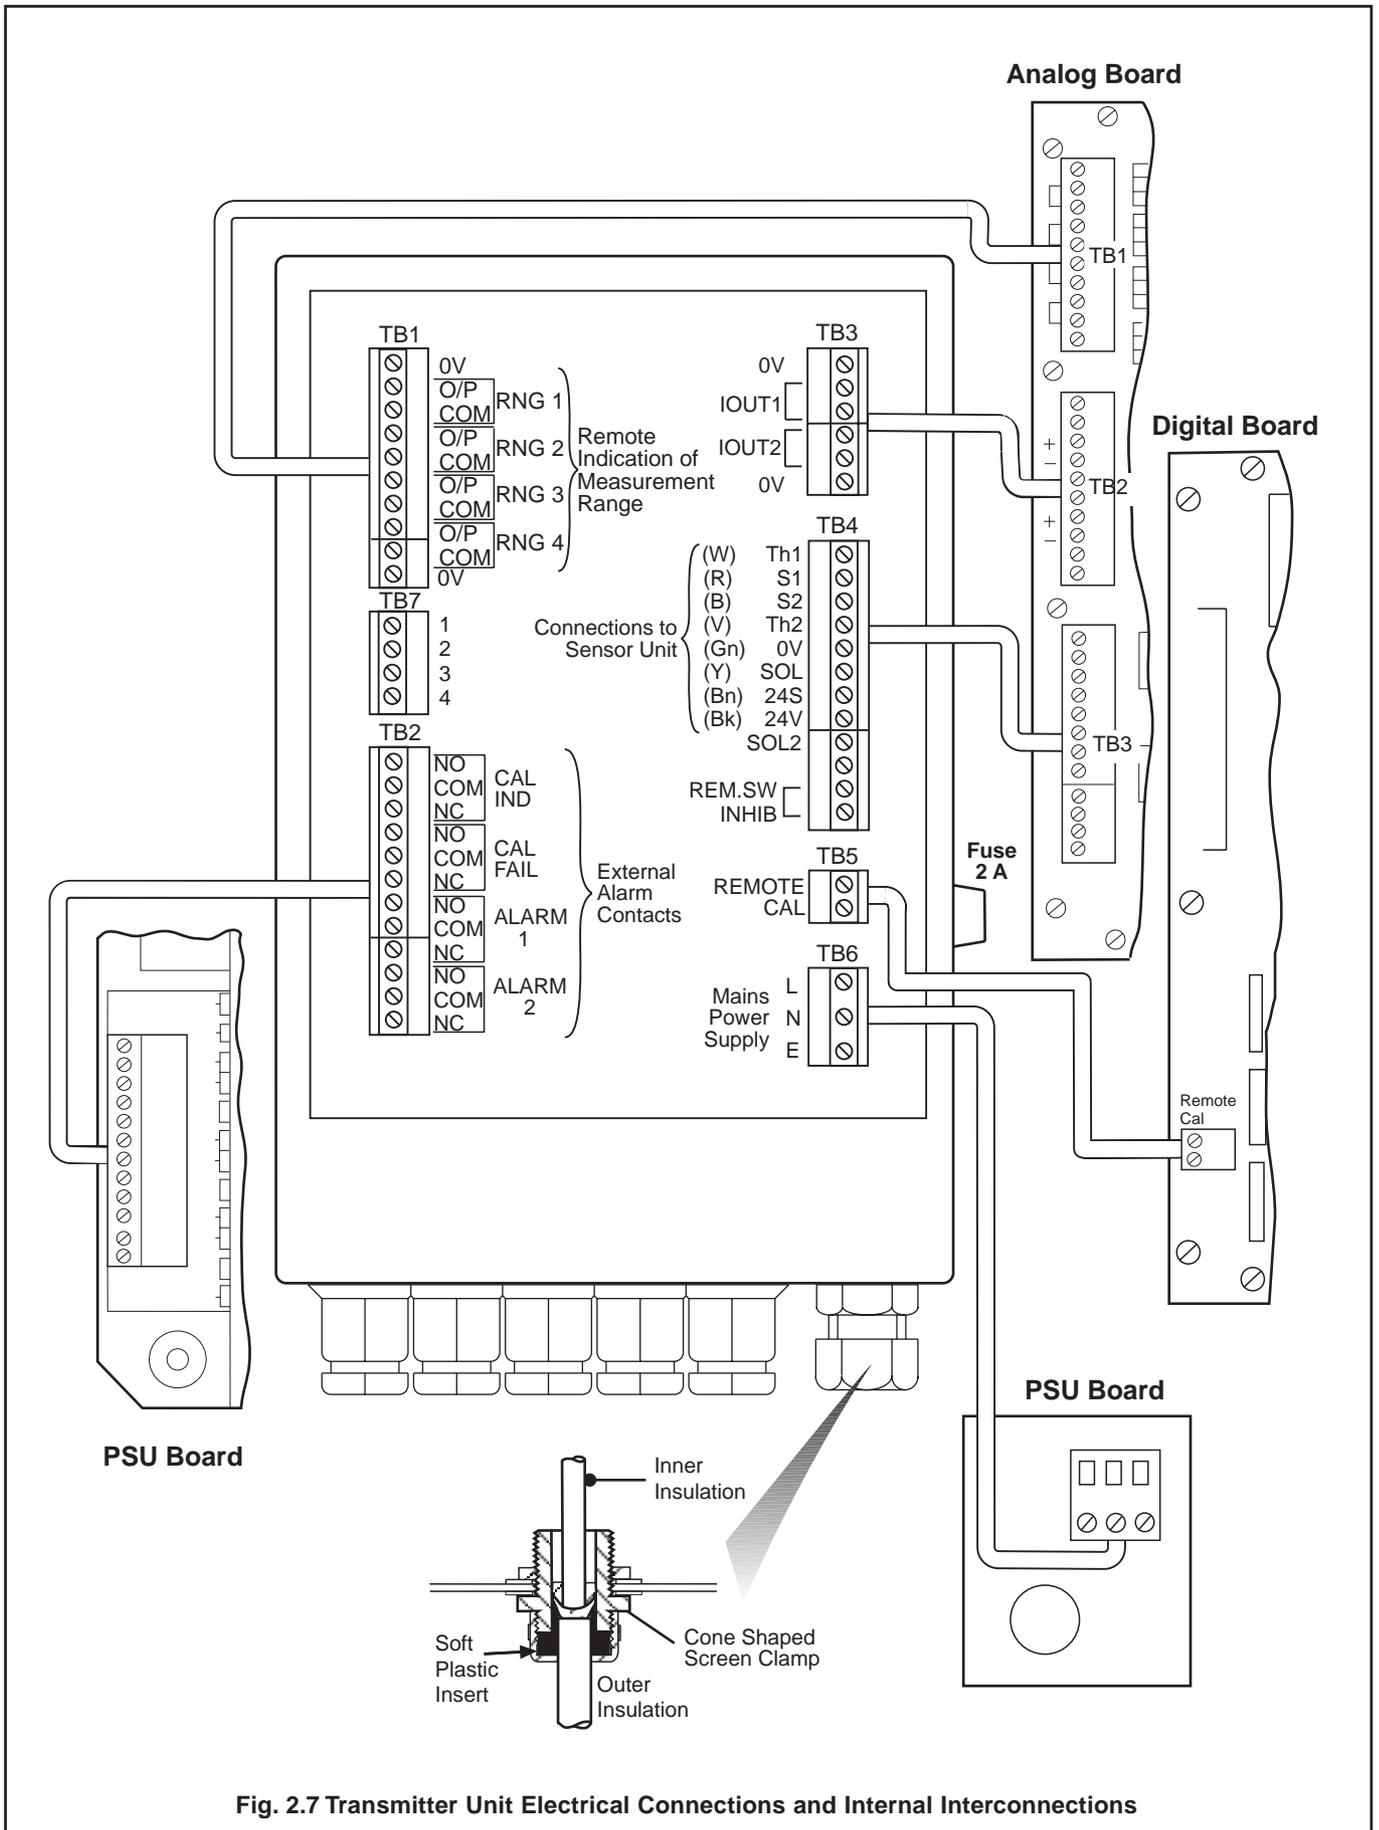

Fig. 2.7 Transmitter Unit Electrical Connections and Internal Interconnections
- Noting that the screening braid terminates at the cable gland and is prepared as shown in Fig. 2.7, prepare the cable end and attach it to the terminal block TB4.